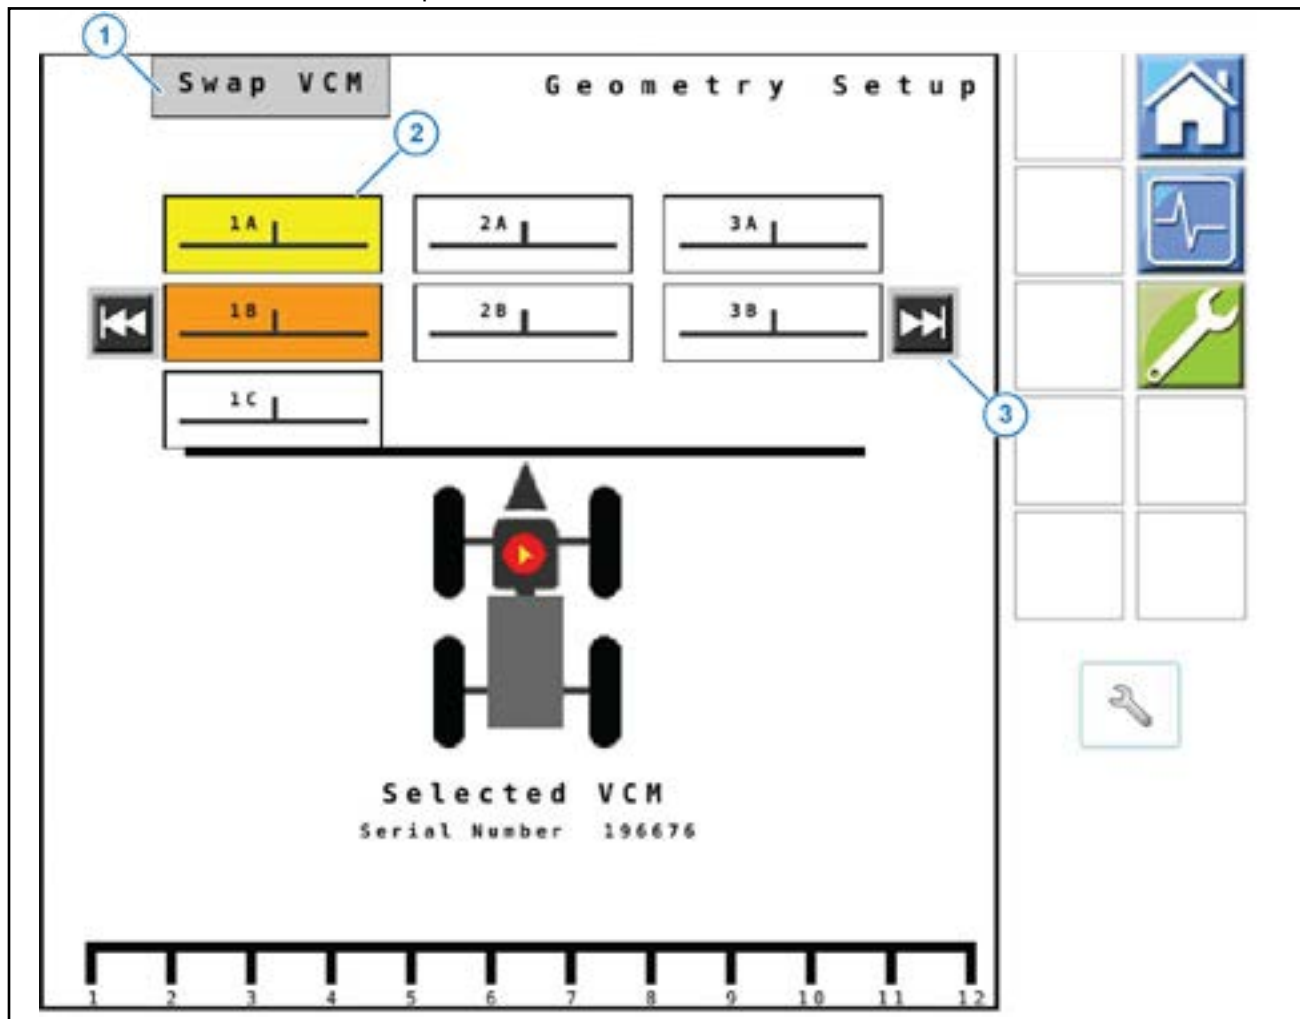

Figure 20: Geometry Setup - Leap Start VCMs
1. If there is more than one Leap Start VCM on a section, you can change their positions. A Swap VCMs icon will show at the top of the screen (Figure 20, Item 1). To do this, tap one of the VCMs (Figure 20, Item 2) will highlight yellow); tap another VCM on the same channel (will highlight orange); tap the Swap VCM button.
2. Select  (Figure 20, Item 3) to go to the next VCM in sequence.